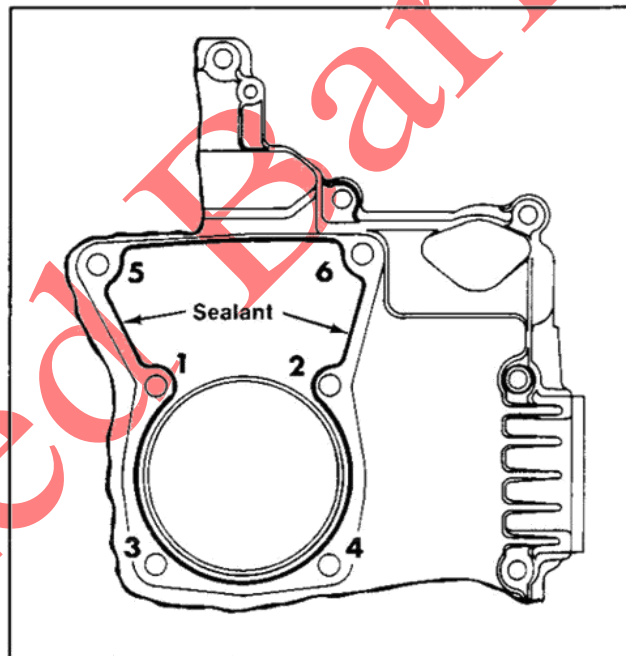

Figure 11-31. Cylinder Barrel Sealant Pattern/Cylinder Barrel Fastener Torque Sequence.
2. Apply a 1/16" bead of sealant to the crankcase as shown in Figure 11-31. Follow the sealant manufacturer's recommendations regarding setting.
6. Install the plain washers and hex nuts. Torque hex nuts #1 and #2 to **100 in. lb.** Torque the remaining hex nuts to **100 in. lb.** in the most expedient sequence. Refer to Figure 11-31.